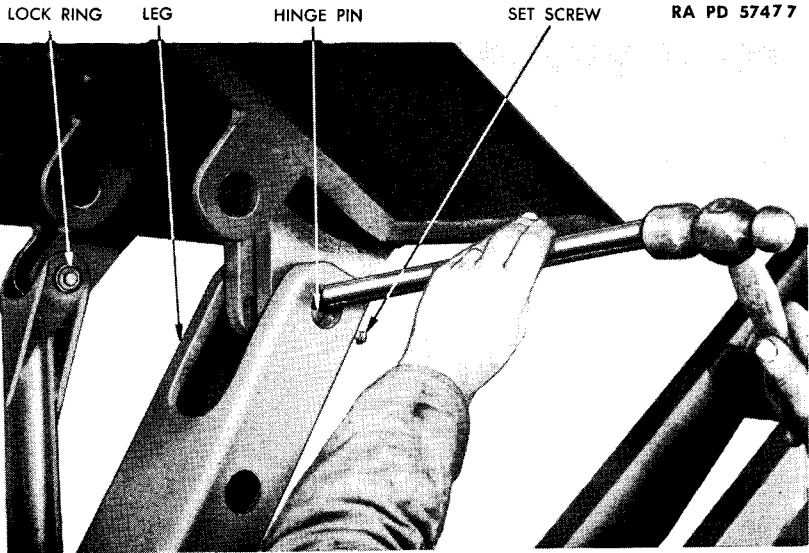

Figure 18 – Removing Support Leg Pin
a. **Disassembly.** *NOTE: Do not attempt to disassemble support unless trailer is coupled to towing vehicle or properly jacked up at front end.* Remove cotter pin from gravity pin holding support leg in the up position, and lower the support leg (fig. 17). Remove lock ring from one side of leg hinge pin and drive pin out. Place screwdriver under slot in lock ring, and pry lock ring off hinge pin. Remove lock nut and set screw from rear side of strut, and drive the two hinge pins out (figs. 18 and 19). Lift strut out.